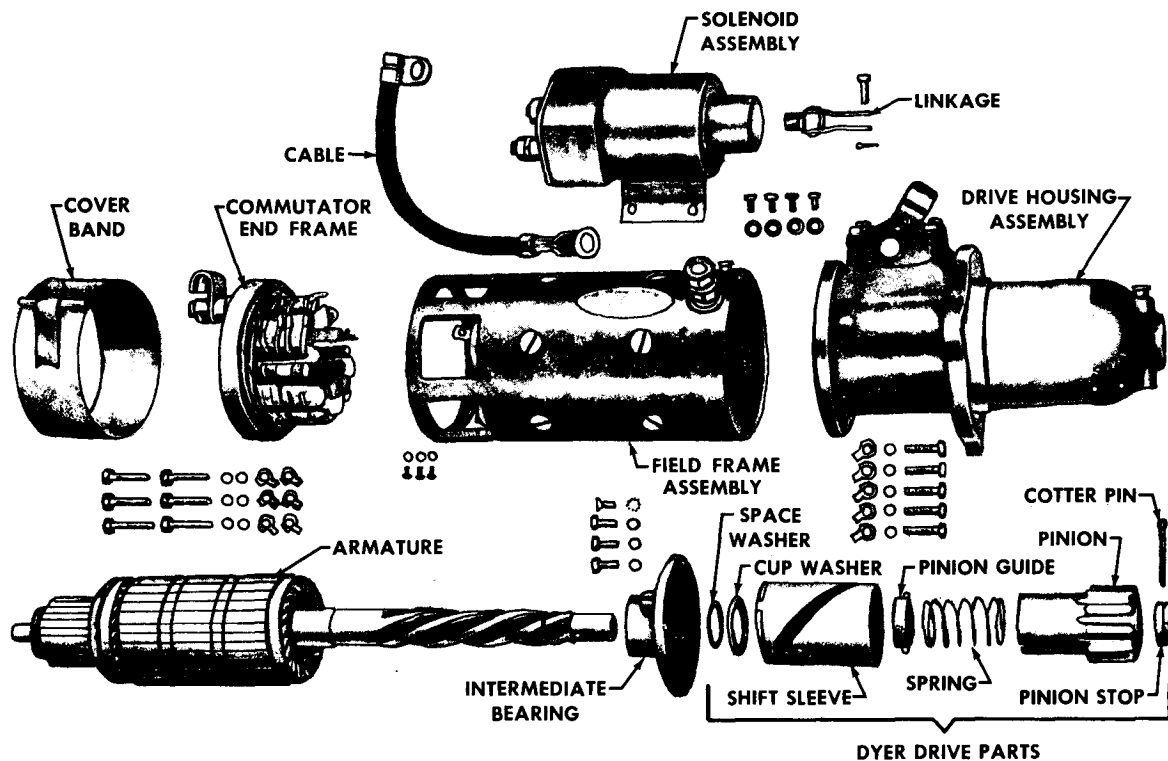

Figure 4—Disassembled view of heavy duty Dyer drive cranking motor.
6. Remove the pinion, spring, pinion guide, shift sleeve, cup washer, space washer, and intermediate bearing from the armature shaft (Fig. 4). **IMPORTANT:** Note carefully the location of the tang on the pinion guide so it can be reassembled in the correct manner.